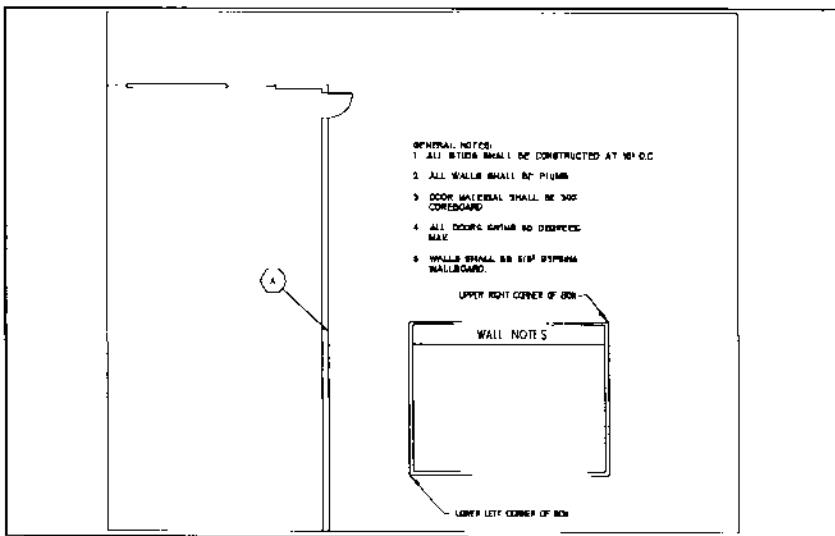

Figure 19.
2. Label the box WALL NOTES using the dynamic option and picking two points as described in Figure 19.
- > Enter lower left corner of the box: [pick lower left corner (shown in Figure 19) as the first point]